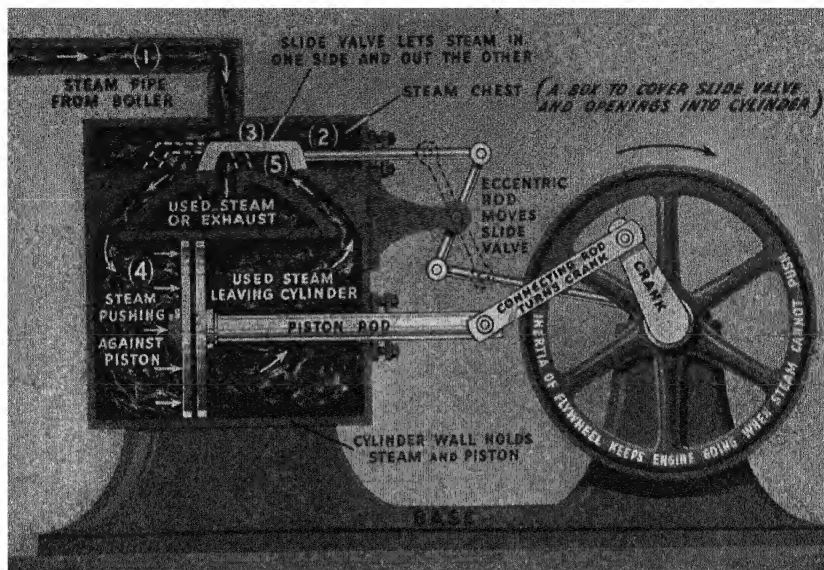

FIG. 472. How a steam engine harnesses energy
Figure 472 shows a common type of engine cut open so that you can see how it works. The steam comes from the boiler through a pipe (1). It enters the *steam chest* (2) and goes past the *slide valve* (3). Then it passes through an opening into the cylinder. There the steam presses against all sides of the cylinder and against the piston (4). The piston is the only part that can move. Thus the steam pushes the piston to the right and turns the flywheel. Soon the piston stops because the crank will not let it go any farther.
2. Name two ways in which a locomotive is different from the steam engine shown in Figure 472.
1. If the slide valve shown in Figure 472 were in the position shown by the dotted lines, how would the other parts of the diagram need to be changed? Make a copy showing the changes.
5. Make a cardboard or wooden model like Figure 472. Make the slide valve and piston with their rods of separate pieces of material so that you can move them back and forth to help your classmates understand how a steam engine operates. Perhaps you can arrange a crank and crank shaft that will turn and move the slide valve at the proper time.